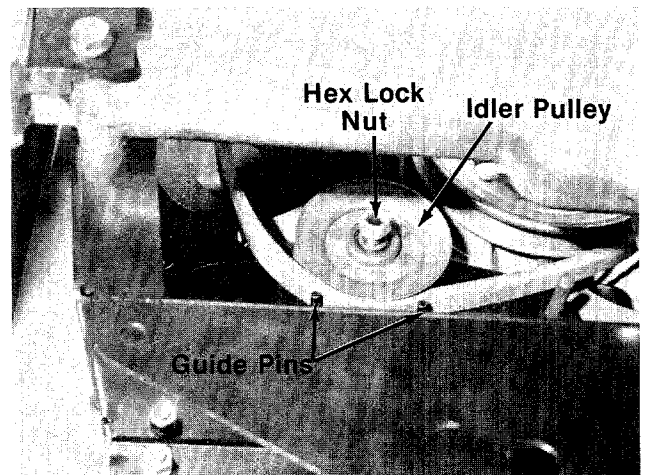

FIGURE 30.
5. Remove the idler pulley by removing the hex lock nut. See figure 30.
10. When sliding the idler pulley on the idler bracket, be certain the belt is between the pulley and guide pins. See figure 30.